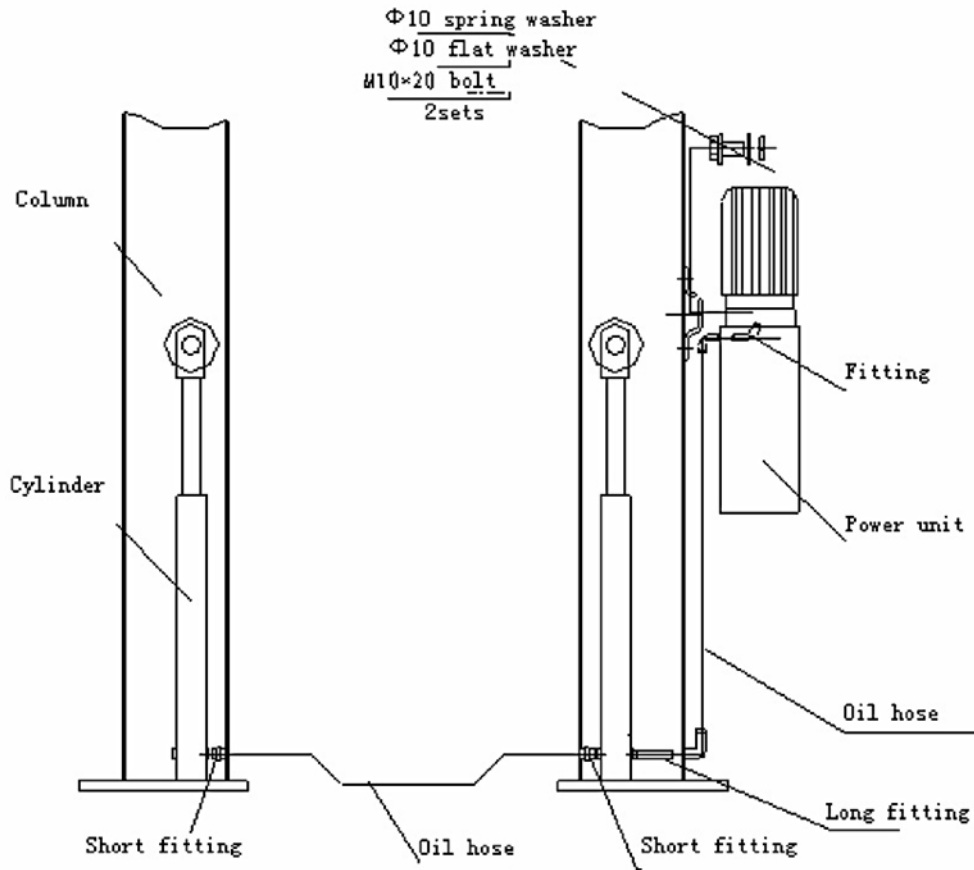

Fig. 13
- Use two M10 Bolt s and washers to fix the power unit (as shown in Fig. 13). For AA-2PCF50 models, , install the hydraulic line as shown in Fig. 13 and tighten all the fittings top event oil leakage.